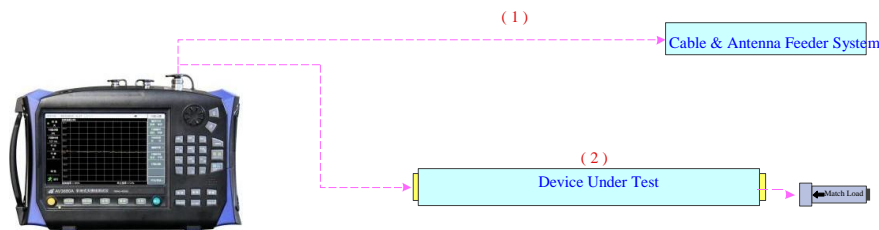

Figure 3.5 Connection method for Return Loss/VSWR Measurement
Return Loss/Voltage Standing Wave Ratio (VSWR) is a representation of the reflection characteristic. In engineering applications, this Analyzer can test the return loss or VSWR of single-port or double-port devices, which is separately shown as (1) and (2) in Figure 3.5.